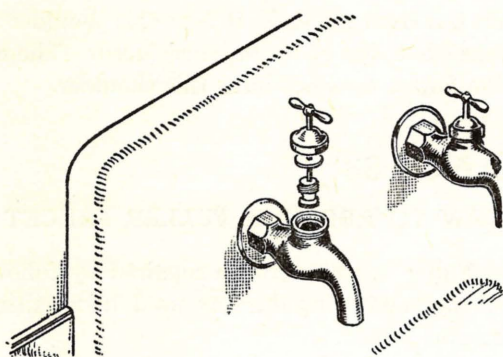

Fig. 386—The body of the compression faucet remains on the water pipe, and the handle remains on the valve stem
2. Remove the valve stem, after unscrewing the packing nut with a monkey wrench. The faucet should be partly opened and kept in that position so that the threads do not become stripped. (See Fig. 386.)